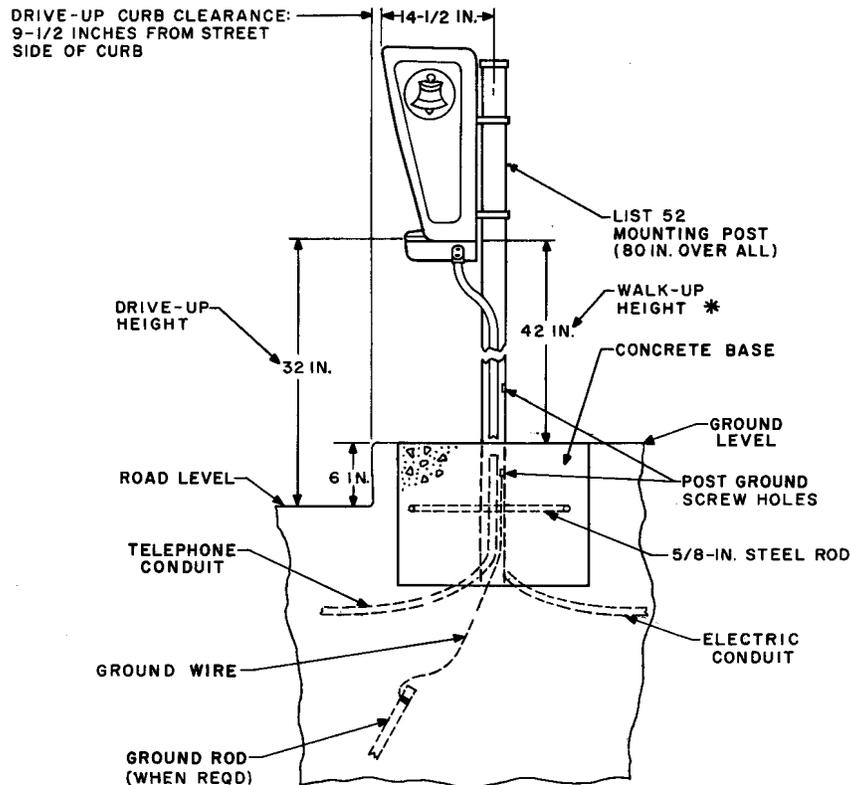

Fig. 1 — Mounting Post Assembly
- Change Fig. 1
→ **3.01** The mounting post is constructed of extra strong 3-inch steel pipe. A 5/8-inch hole is located 9 inches from the lower end of the post. In order to provide additional security and stability, a steel rod may be inserted through this hole before the base is poured. Obtain rod locally. Requirements for a complete mounting installation are shown in Fig. 1.